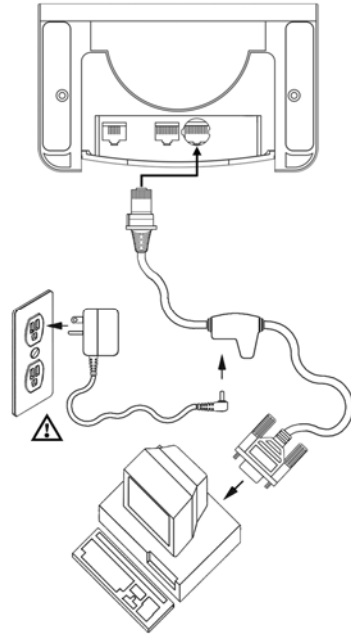

Figure 7. RS232 Interface
2. Connect the keyed VLink cable to the 10-pin Multi-Interface jack. It is the only circular keyed jack located on the bottom of the 7820 (see figure 7).